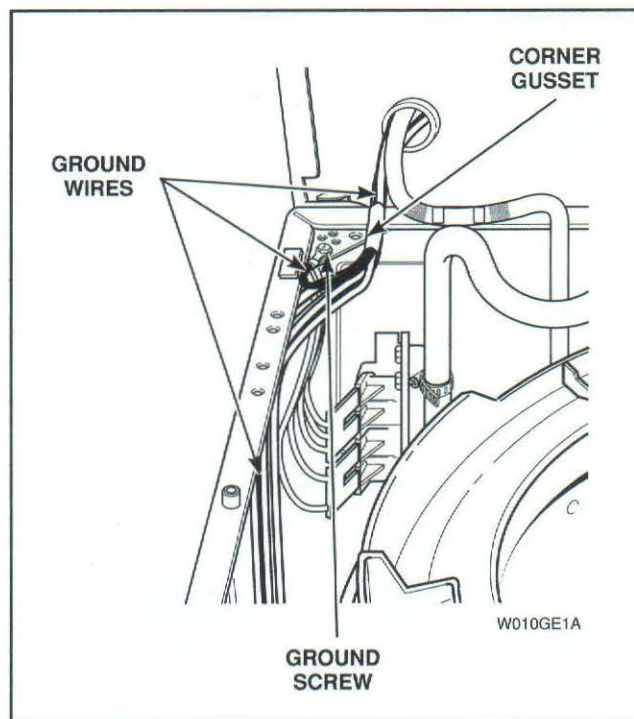

Figure 3
3. CONTROL HOOD WIRE HARNESS TO TOP LEFT REAR CORNER GUSSET OF CABINET, *Figure 3.*